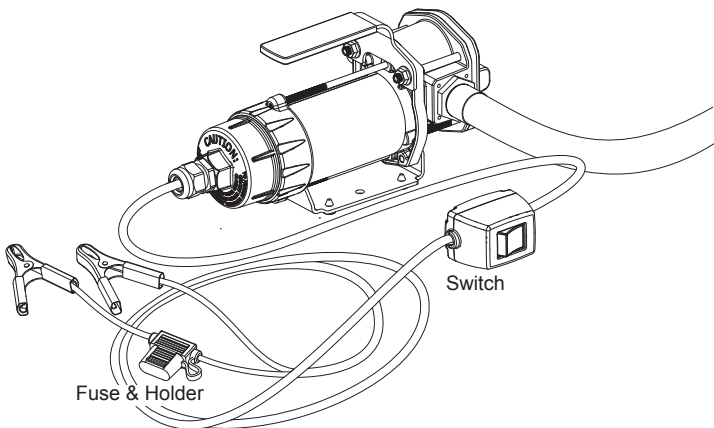

Figure 4
2. Turn on the pump with the inline switch (see Figure 4).